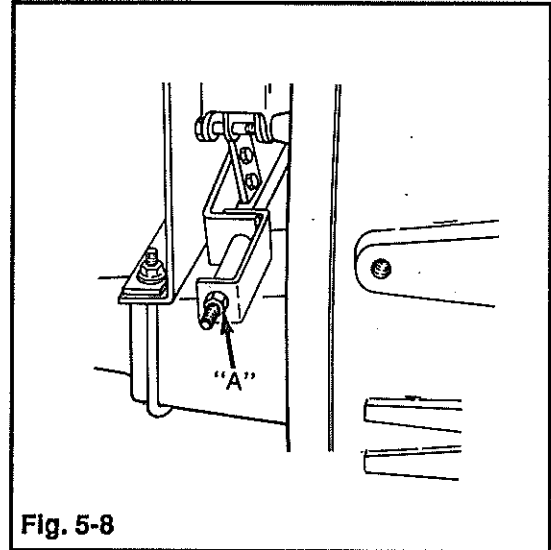

Fig. 5-8
1. Turn hex nut (A. Fig. 5-8) and lock nut on inside of bracket until a gap of .010" (.25mm) is achieved between brake disc and brake pad.